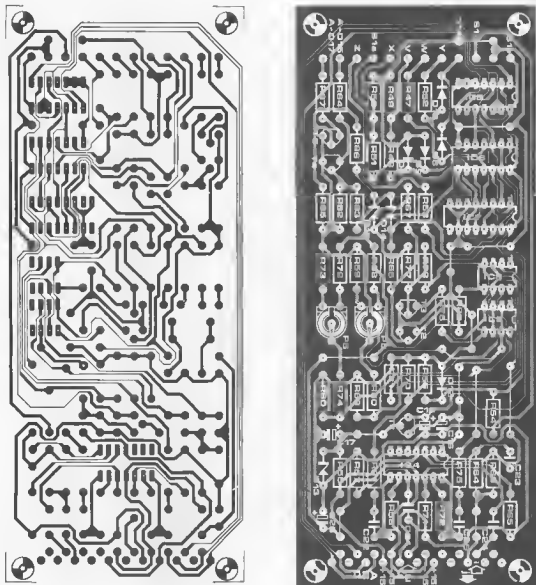

Figure 5. The 'switch board' contains the circuit in figure 3b.
Figures 4 and 5 represent the track layout and component overlays of the voiced/unvoiced detector printed circuit boards. The detection circuit in figure 3a is incorporated on the board shown in figure 4, the remainder (figure 3b) being installed on the board in figure 5.
The 'computer' connections indicated in the diagram as: unvoiced in (V), unvoiced out (W), voiced in (X), voiced out (Y) and inhibit (Z) are all situated on the front of the 'switch boards' given in figure 5. If required, these points can be led out quite simply with a connector. This will enable experimenters to control the unit by means of a computer without having to cope with complicated wiring problems.